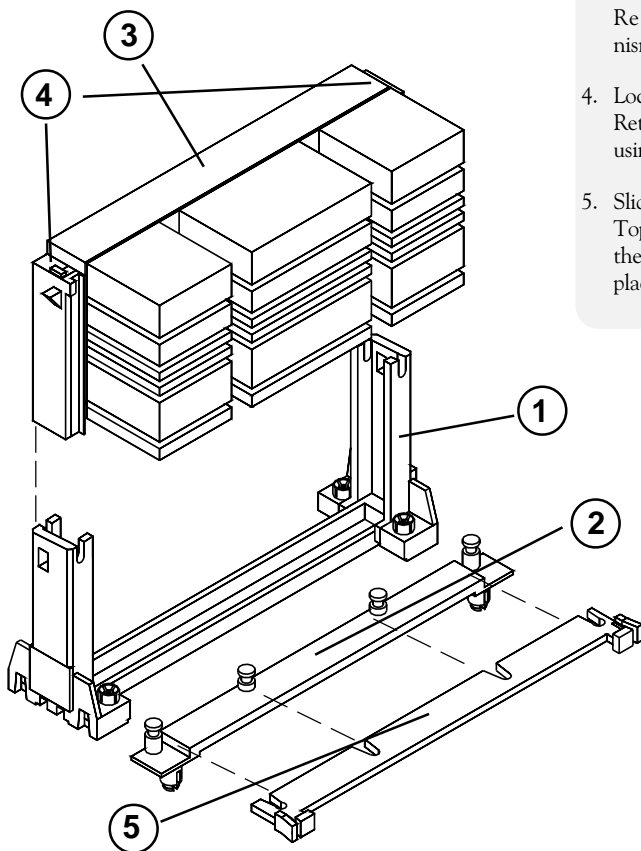

Figure 3-1: Installing a CPU
1. Hold the DIMM so that the notched edge is aligned with the notch on the DIMM socket (Figure 3-1).